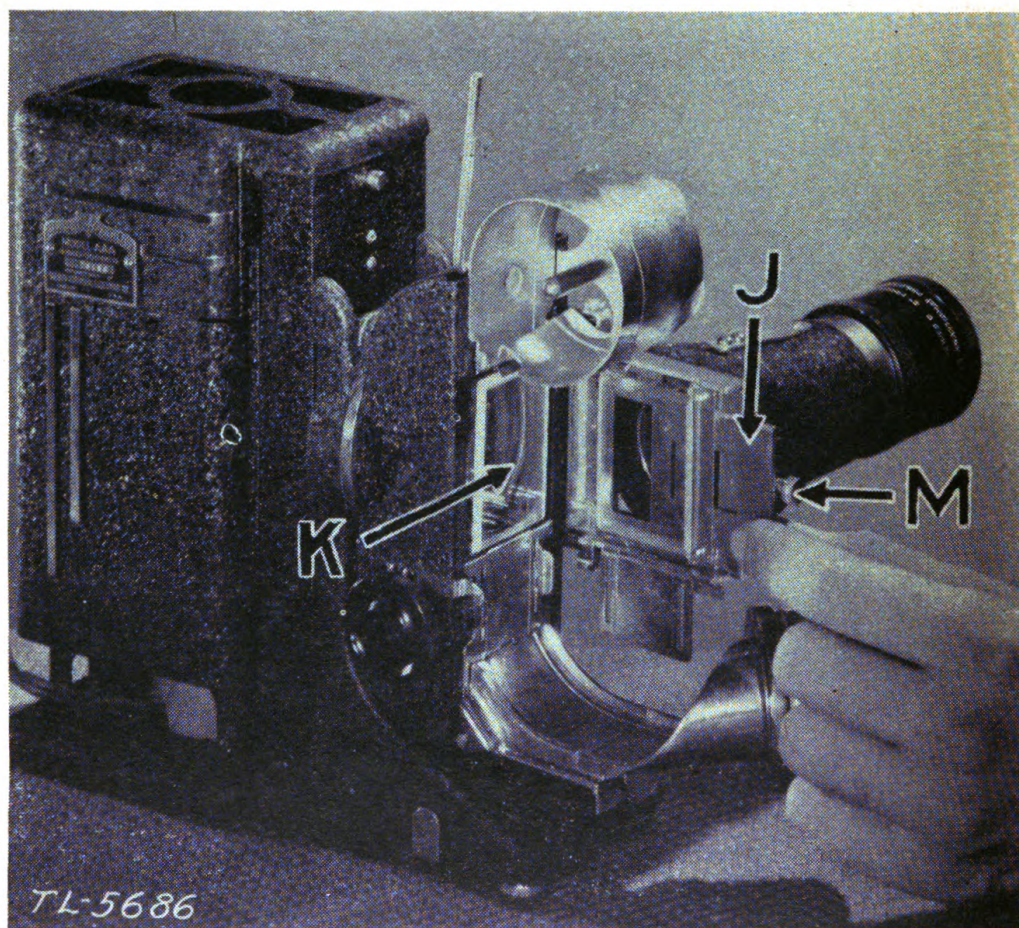

FIGURE 74.—Removing front aperture gate.
d. To project double-frame film strips, remove front aperture mask *J* by grasping the metal edge and sliding it completely out of mask frame (fig. 74). When using horizontal pictures, turn the projector head 90°.
23. Use of slide carrier.—*a.* For projecting 2- by 2-inch slides, open the film gate and remove front aperture mask frame by pulling knob *M* (fig. 74) on frame to right and away from film gate.
b. Remove rear aperture glass *K* (fig. 74) by grasping its sides and lifting lower end from trough.